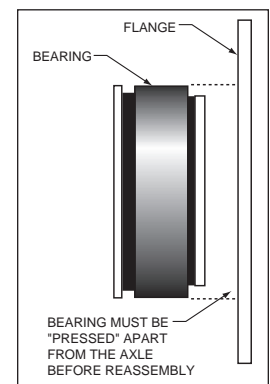

Figure 6.
Completely disassemble the stock brake system down to the bare axle. The stock bearing must be “pressed” off from the axle. Discard the original bearing and flange. Degrease and remove any dings or burrs on the axle which may interfere with the brake assembly. A new “Green” non-adjustable bearing and seal kit (purchased separately) must be pressed onto the axle. The flange must be “pressed” off of the bearing, Figure 6. The Wilwood caliper mounting bracket (1) has been designed to replace the original flange and fit over the new bearing. Insert the axle into the rear end housing and secure.